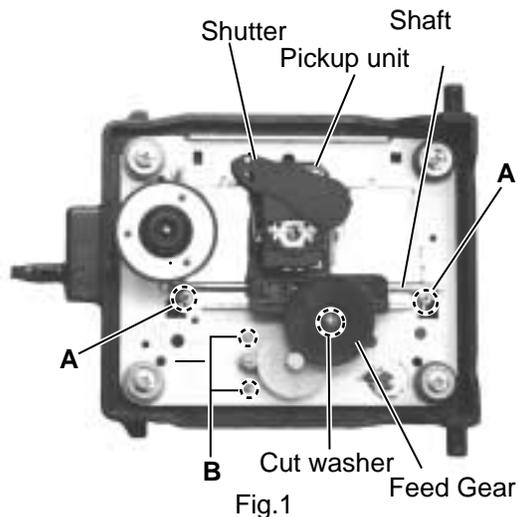

Fig.1
**■ Removing the pickup unit. (See Fig.1)**
**■ Removing the feed motor. (See Fig.1)**